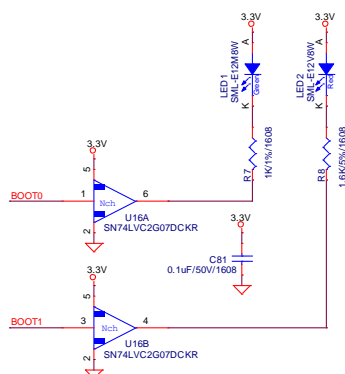

Figure 2-9 Example of using the LED that shows the TX/RX status of R9A06G061
- Figure 2-9 shows an example of using the LED that shows the transmission / reception status of R9A06G061.